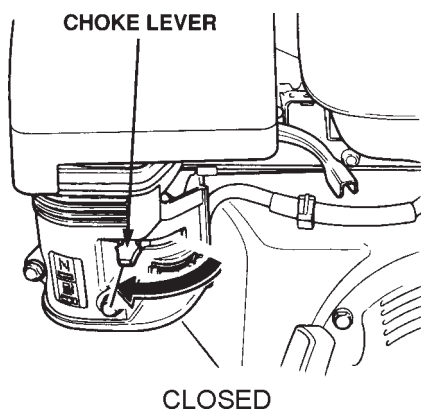

Figure 20. Engine Choke Lever (Closed)
4. Place the *choke lever* (Figure 20) in the "CLOSED" position if starting a *warm engine* or the *temperature is warm*.